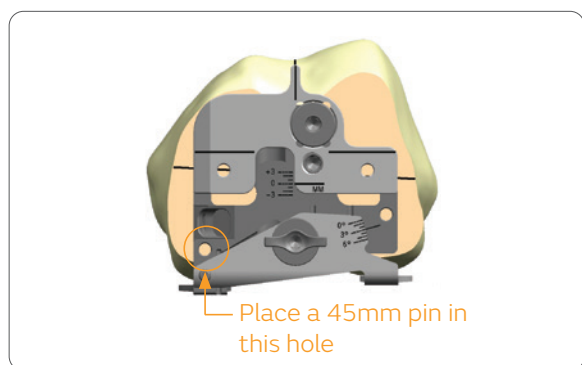

Figure 86
1. Place the appropriate (left or right) JOURNEY® II DCF Sizing Guide on the resected distal femur with the rotation set to 3° to resect implant thickness from the posterior condyles. Place a 45mm headed pin through the hole just above the medial paddle to secure the sizing guide for the remainder of its use (**Figure 86**).